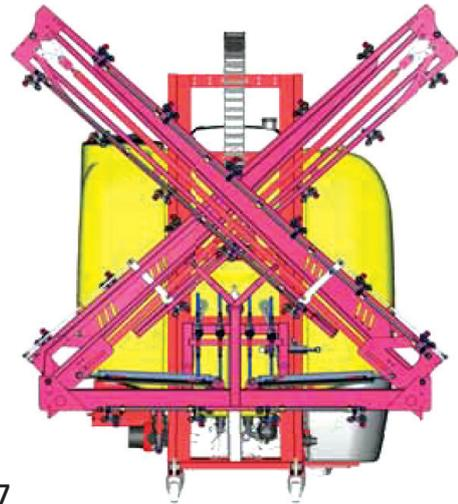

Figure 47
2. End arms can be folded with hinged system. All these parts can practically be folded on each other and become a package, and they can easily take the transport position for road conditions. (**Figure 47**)